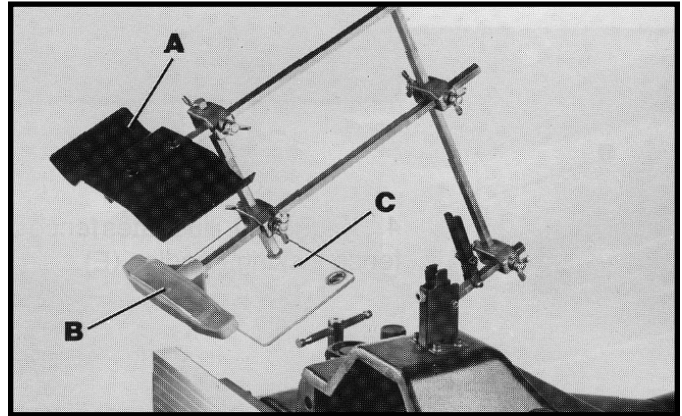

Fig. 24
2. The spring guard (A), holddown (B) and clear plastic guard (C) can be flipped up out of the way, as shown in Fig. 24, when not in use or when making adjustments.